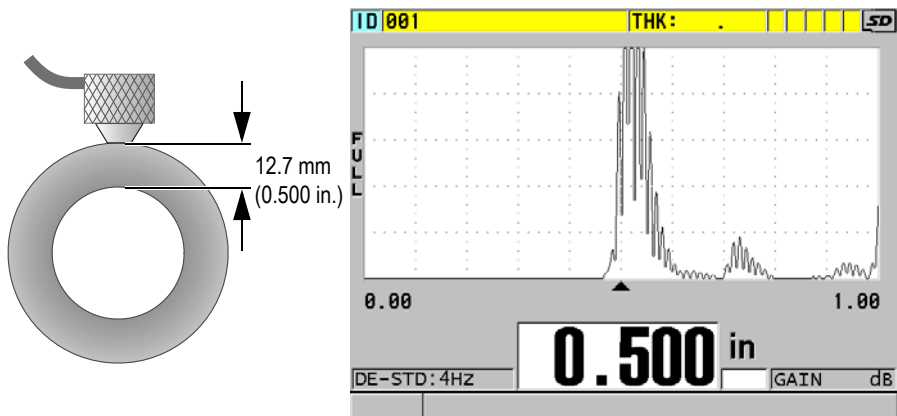

Figure 5-9 Coupling dual element transducer and reading the measured thickness
2. Using moderate to firm pressure, couple the tip of the transducer to the surface of the test material, and keep the transducer as flat as possible on the material surface (see Figure 5-9 on page 76).